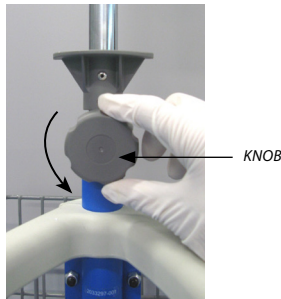

Figure 1
1. Remove the **KNOB** from the **ROLL STAND POST** by rotating it counter-clockwise as shown in **Figure 1**, also gently adjusting the **ROLL STAND POST** to its lowest position.